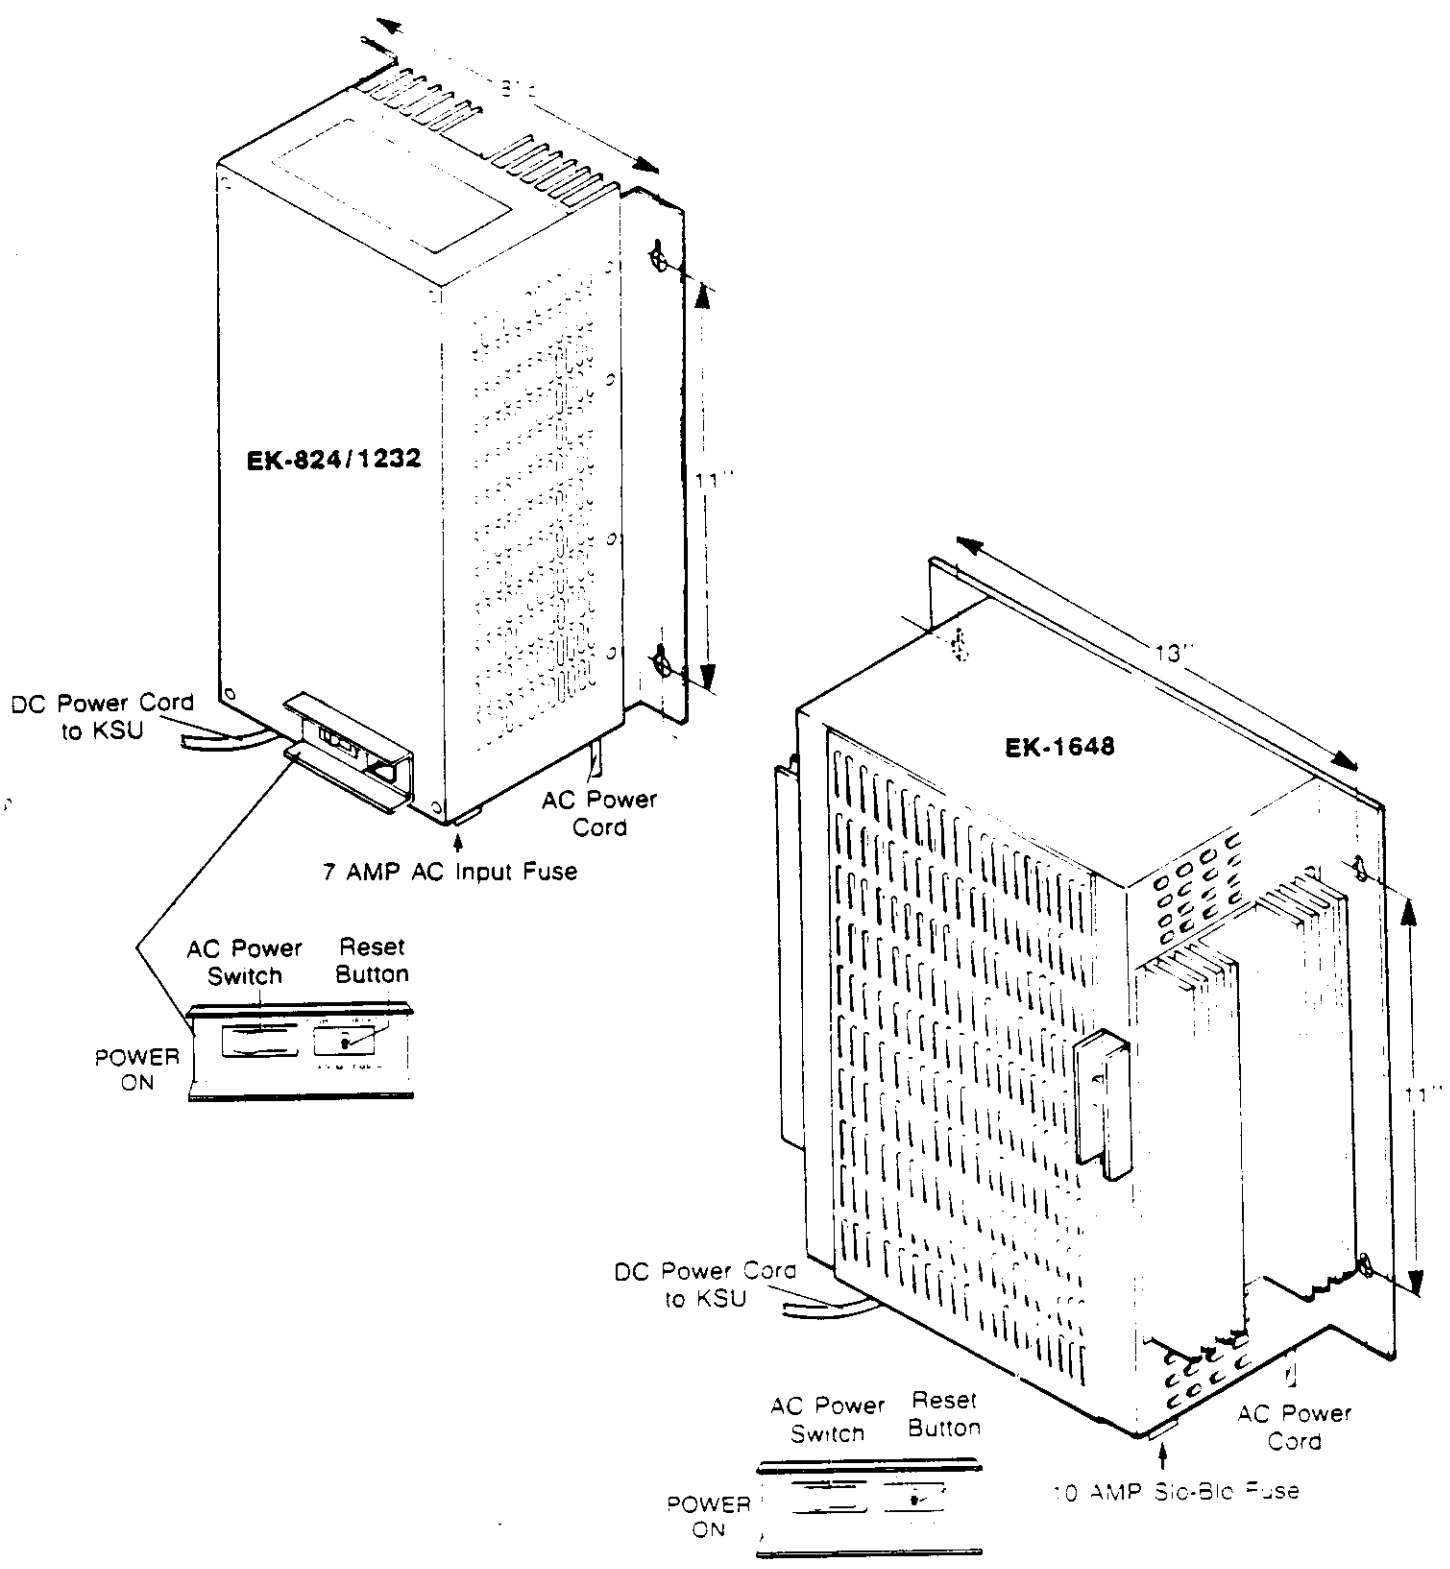

Figure 5-2 POWER SUPPLY, EK-824/1232/1648
3.06 Mount the power supply (Figure 5-2) on the backboard in the proper location. This power supply is cooled by convection currents; therefore, it must be installed with the cables at the bottom of the unit.